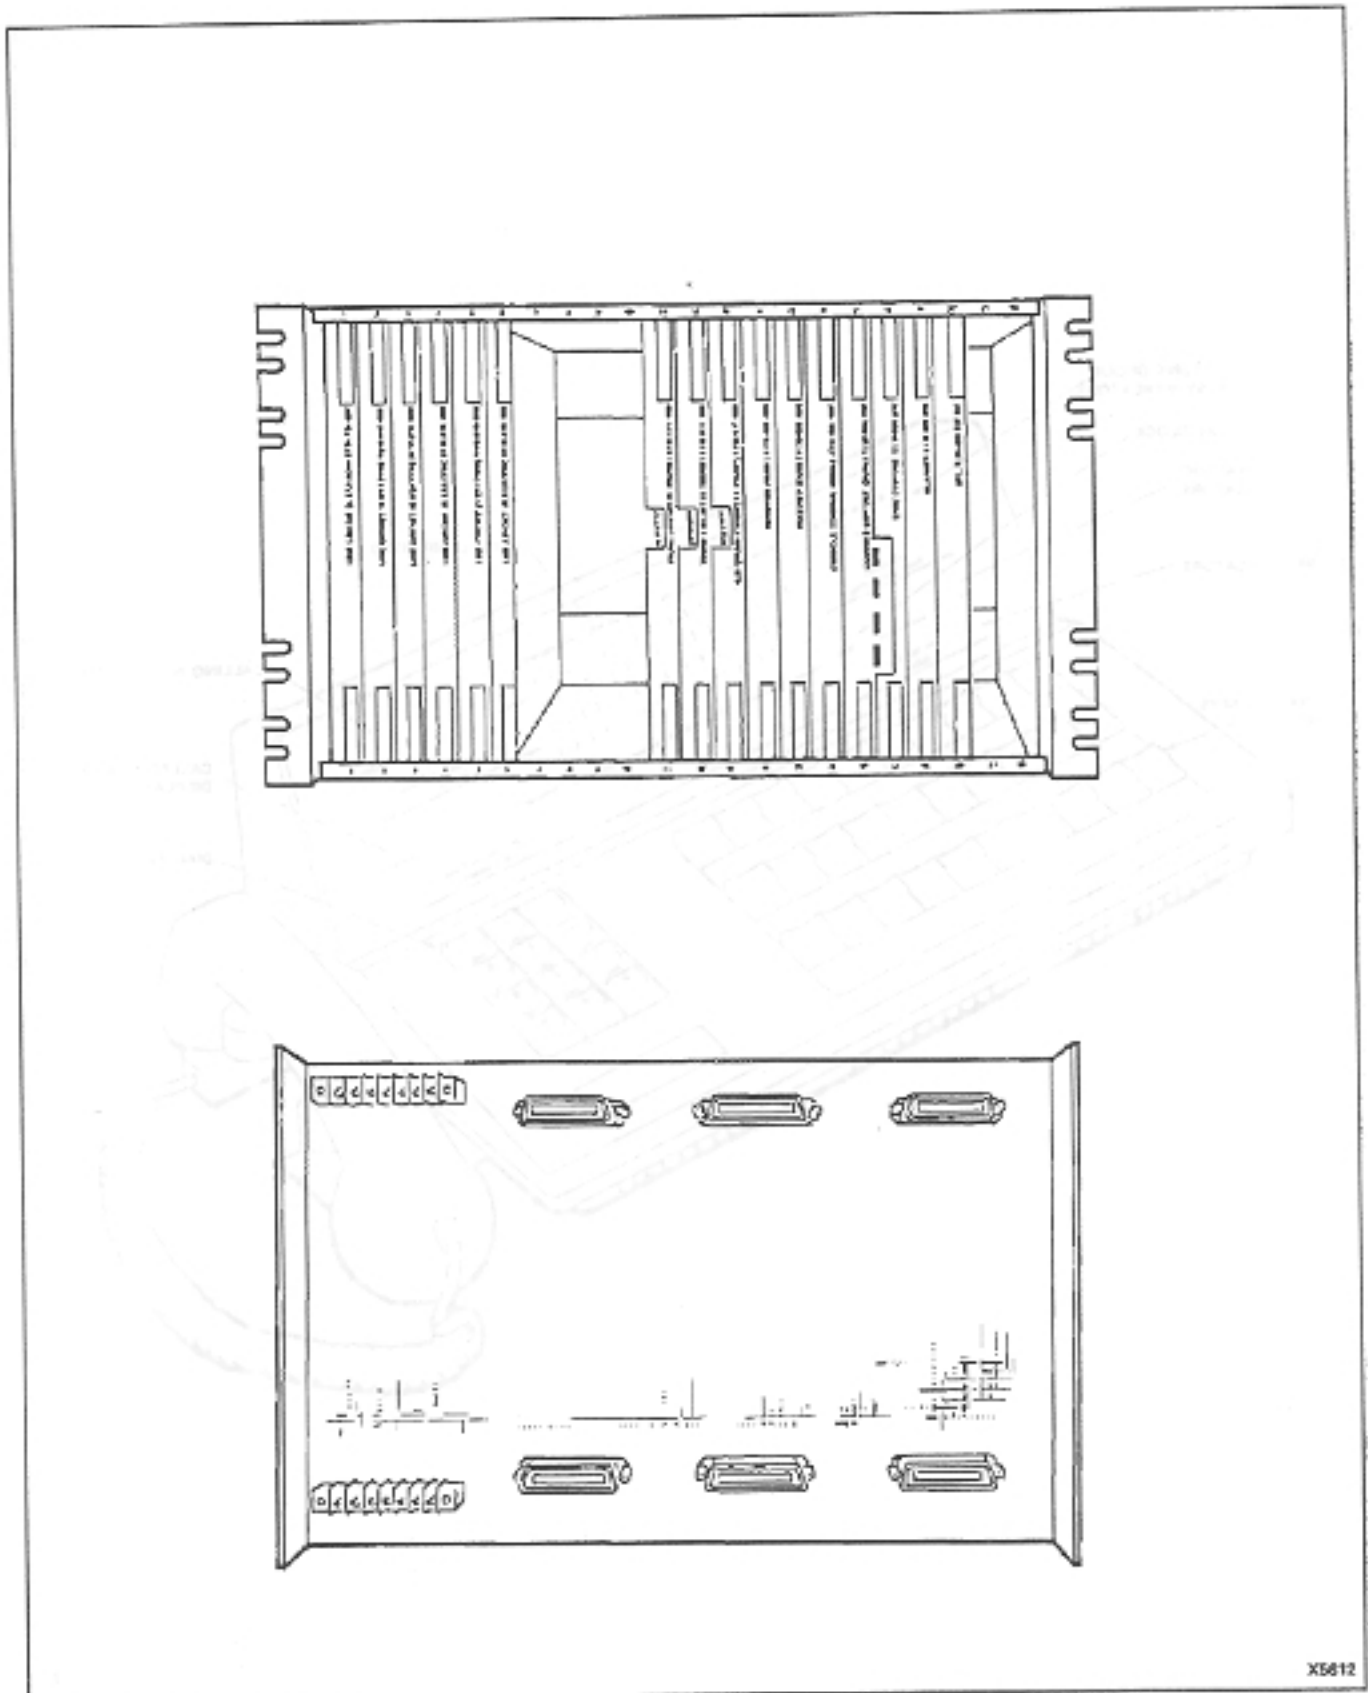

Fig. 2-10 Equipment Shelf
2.25 The same backplane and equipment shelf are used in both the SX-100 and SX-200. Field replacement of only the backplane is not recommended; rather the whole equipment shelf should be replaced (Fig. 2-10). The backplane essentially provides an interface between all printed circuit cards (paragraphs 2.01 - 2.18) and extensions, trunks and miscellaneous equipment. Physically the backplane has six 25-pair amphenol type connectors for equipment, extensions and trunks. All power for the backplane is provided by terminal blocks TB1/2 and TB3/4. All PCB cards are held in position by PCB edge connectors on the backplane, and